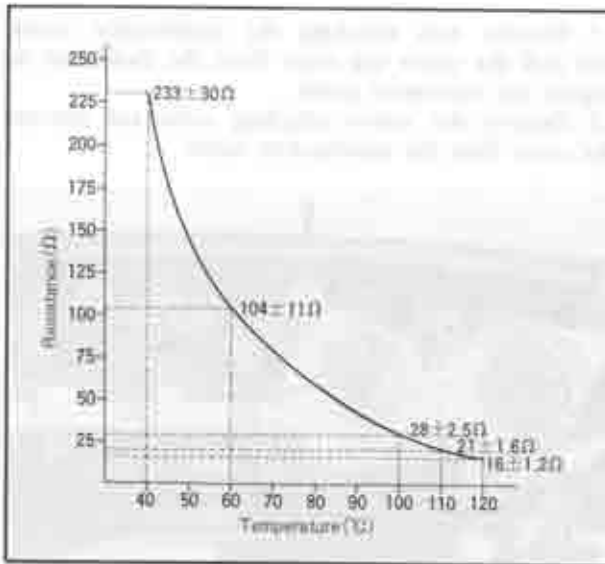

Fig. 15-13 Characteristic of thermister
- 1) If temperature and resistance value at that temperature are within range of tolerance, unit is satisfactory. Range of tolerance is ±20% of resistance value shown in Fig. 15-13 (including measuring errors).